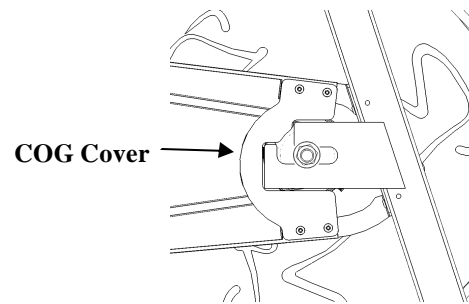

Figure 7.
2. Using a 3mm Allen Wrench, remove the four screws supporting the COG guard cover. (Figure 7)